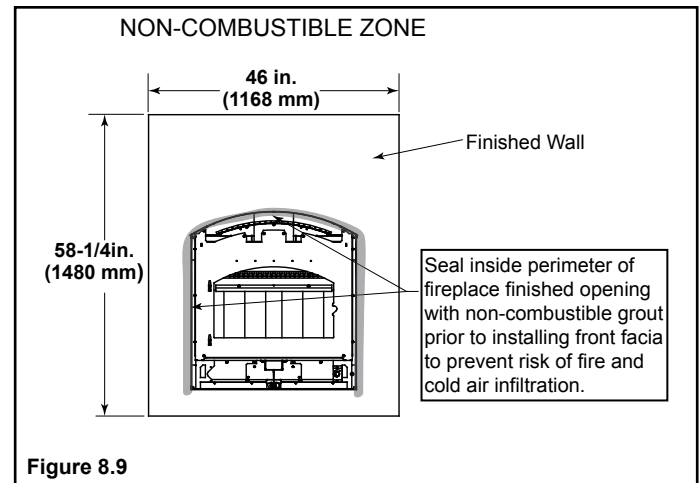

Figure 8.9
- A bead of non-combustible sealant must be used to close off any gaps at the top and sides between the fireplace and non-combustible facing (Figure 8.9) to prevent cold air leaks and the risk of fire. Large gaps can be bridged with fiberglass rope gasket.